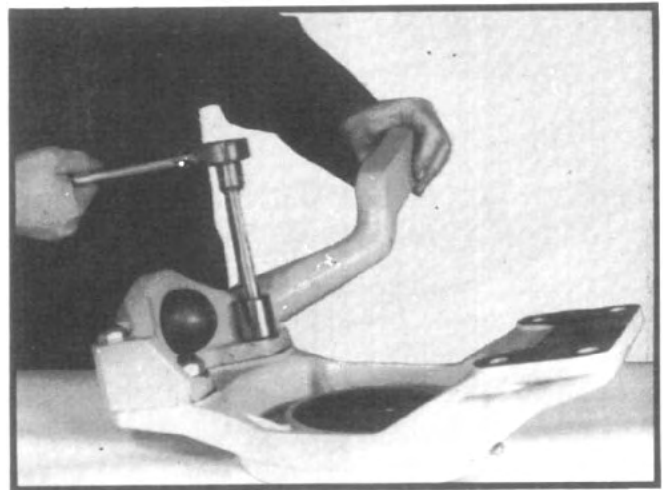

Fig. 25
1. The lower kingpin ball stud and the lower kingpin bearing are exposed for inspection after steps B, C, and D or after step E alone. (See fig. 25.)
3. Position the proper bracket on the studs or bolts, whichever is used, projecting through the spindle yoke. Install the hardened washers and locknuts. Tighten to the specified torque. (See fig. 25, Page 12.)